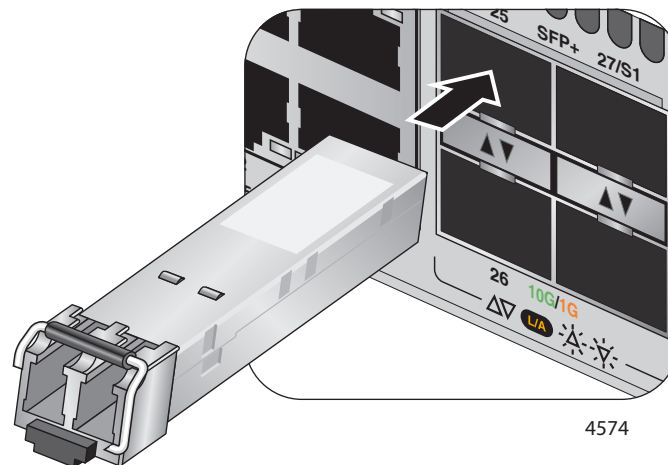

Figure 54. Installing an SFP Transceiver
3. If you are installing the transceiver in a top port, position the transceiver with the Allied Telesis label facing up. If you are installing the transceiver in a bottom port, position the transceiver with the label facing down. Refer to Figure 54.